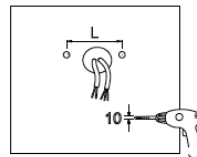

Fig. 21
1. Mark and drill holes for bracket (Fig. 21).